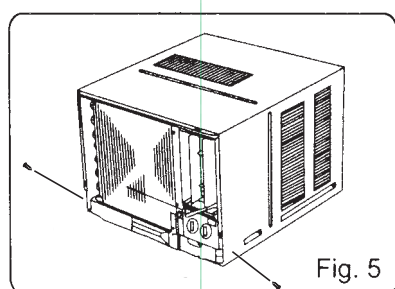

Fig. 5
1. Remove the screws fix the chassis-fixing board and cabinet. some Models have two more screws on the back of the cabinet. (see Fig.5)
5. Fix the chassis and cabinet.. (see Fig.5)